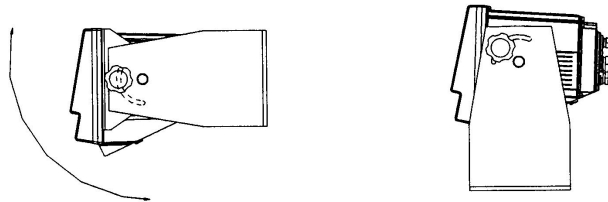

Figure 4
6. Adjust the viewing angle of the terminal to the operator's preference and lock the unit in place by tightening the knobs installed in Step 5. Refer to Figure 4.